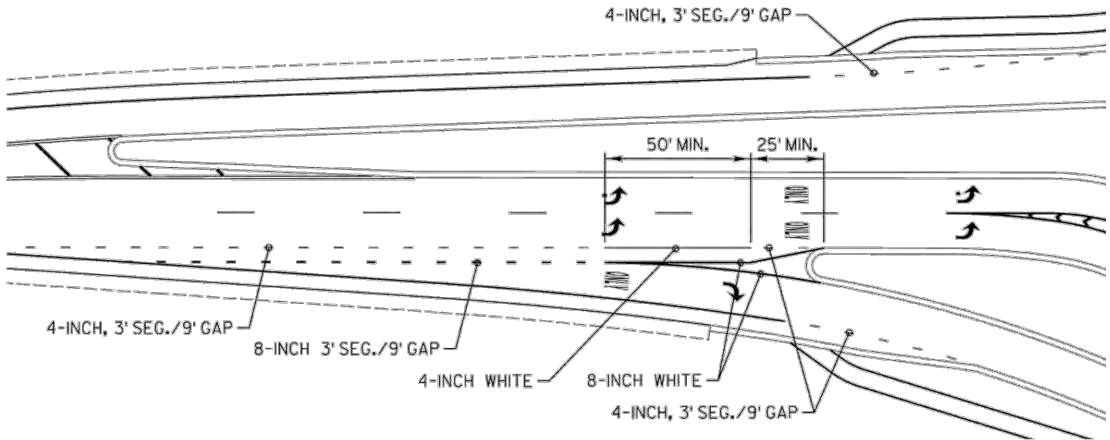

Figure 35.6 Bike Lane Roundabout Marking
- 18. When required, bike lane markings should be placed as per Figure 35.6.
Bike lane marking within the circulatory roadway is not permitted on any roundabouts. Refer to Figure 35.6 for Bike Lane markings on roundabout approaches.